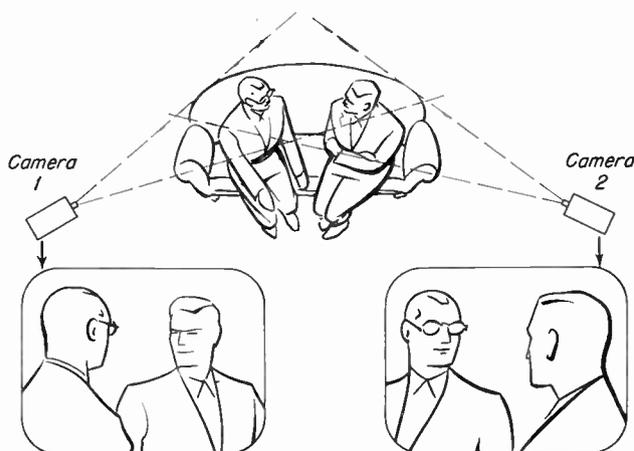

Fig. 6-5. Reverse-angle two-shots. This is an exception to the general rule against cutting between similar shots.
3. *Don't cut between similar shots of the same subject.* Don't cut from one two-shot to another two-shot. Of course, the second one may be from a different angle, but does it show the audience anything more? The only exception to this is in the case of "reverse-angle" shots, where the first camera looks over one man's shoulder to see the other full face and the second camera does the opposite from the other side (Fig. 6-5).